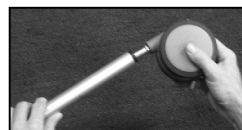

Figure 8
2. Insert the casters into the socket on the bottom of the individual leg tubes (Fig 8).